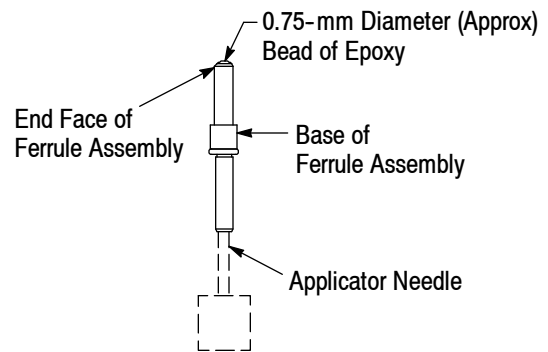

Figure 6
- a. Hold the ferrule assembly vertically, and insert the needle tip into the base of the ferrule assembly until it is against the back (end closest to the base). Refer to Figure 6.